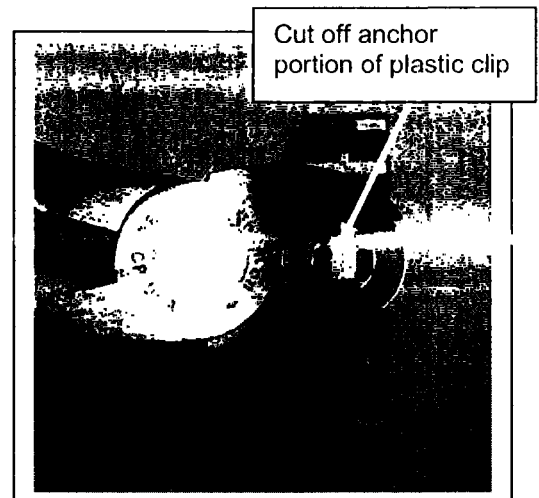

Figure 3a
- a. Using a pair of diagonal / side cutters, cut off the anchor portion of the white plastic clip (see Figure 3a).